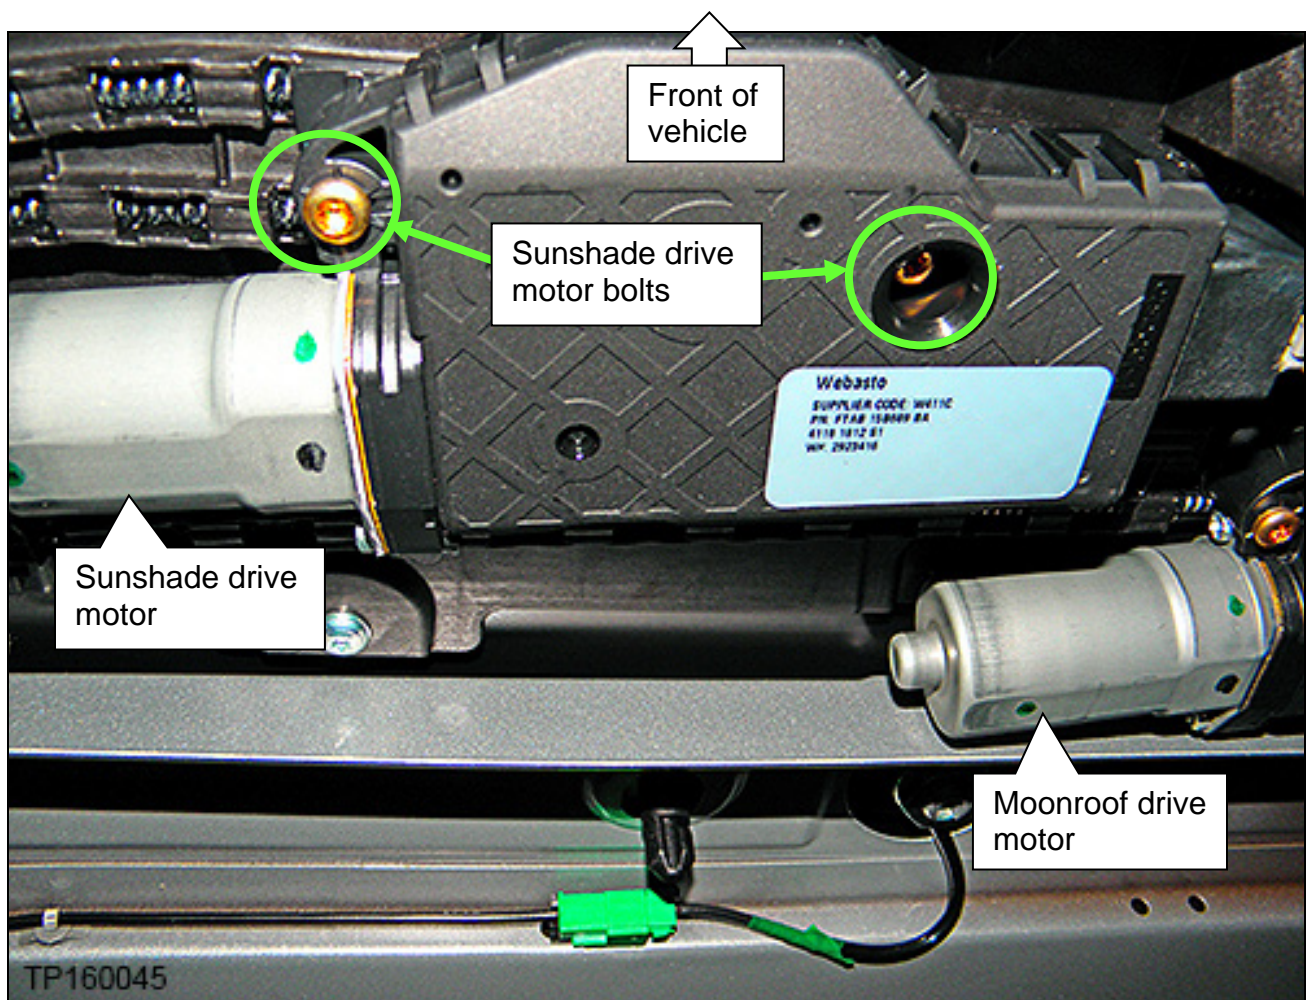

Figure 61
- Figure 61 shows the sunshade drive motor bolts (T25). The Moonroof drive motor bolts are similar.